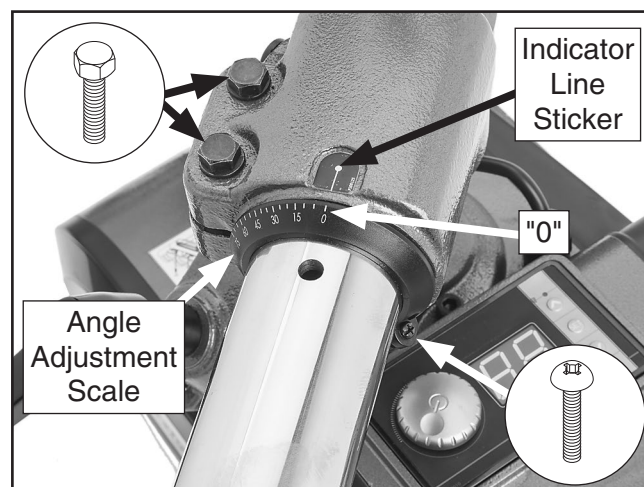

Figure 15. Angle adjustment scale and indicator line sticker installed.
9. Adjust rollers parallel to table top, then tighten hex bolts shown in **Figure 15**.
10. Remove backing from indicator line sticker and install in recess on upper elbow-joint, as shown in **Figure 15**.
11. Position angle adjustment scale so it just contacts upper elbow-joint, align "0" on scale with indicator line, then tighten screw (see **Figure 15**).